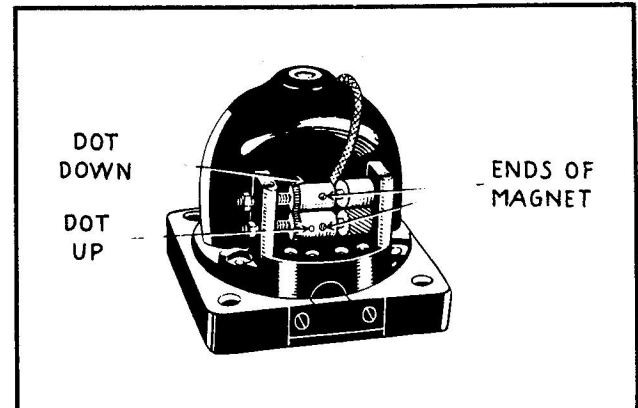

Figure 2-14. Positions of E-W Magnet Gear Assemblies
a. When reassembling the two E-W magnet gear assemblies (41 and 42) into place with bearing screws (40), mesh gears so that the magnets are parallel and the dot on gear (42) is up and the dot on gear (41) is down. The dots are stamped on the assemblies next to the north pole of each magnet. (See figure 2-14.)
b. Turn in bearing screws (40) until an end play of approximately 0.005 inch is obtained.
c. Use socket wrench (G-4902) to tighten the lock nuts (39).
e. When reinstalling the E-W drive gear (37), insert the slotted end through the hole in the case so that the spiral gear meshes with that of the E-W magnet gear assembly (42) and the dot on the slotted end is adjacent to the dot on the front of the case. (See figure 2-14.)